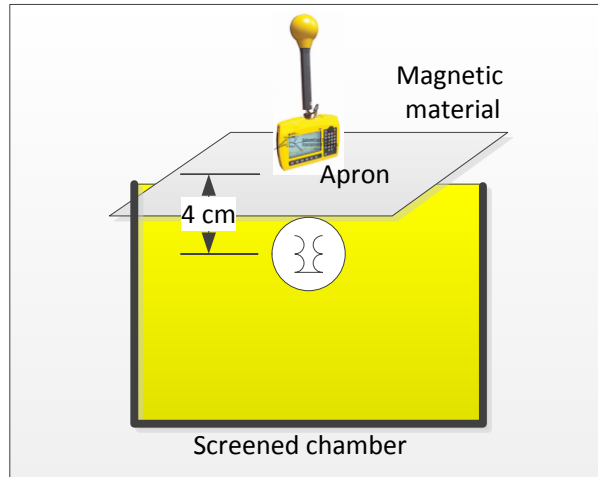

Fig. 2- set-up 2
2. The transformer was held inside the chamber (open top), at a depth of about 2 cm, relative to its opening. The magnetic field was measured at a distance of 4 cm above the transformer, as depicted in Fig. 2.